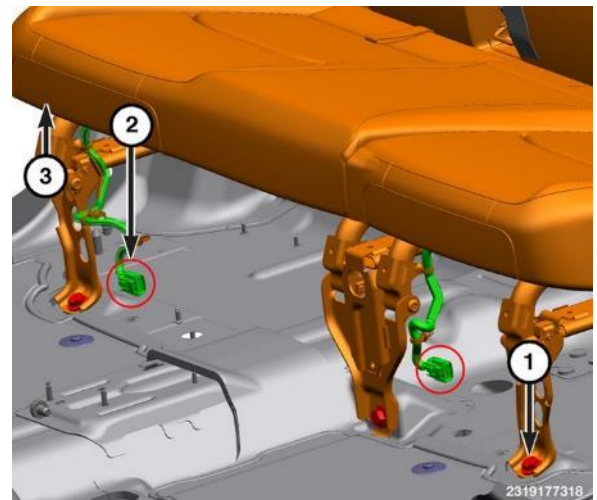

Figure 21 – Rear Seat Components
- 33. Disconnect the wire harness connectors (2), if equipped (Figure 21).
- 34. Remove the bolts (1) at the front of the rear seat (Figure 21).